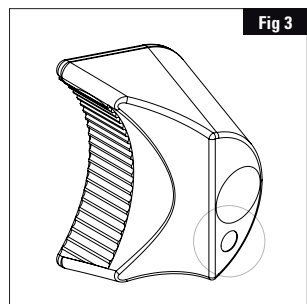

Fig 3
- If you wish to reach positions: -9° / -5° / -1° / $+3^\circ$ / $+7^\circ$ / $+11^\circ$, insert them in the **RIGHT** housing of the stem's body (4)
- If you wish to reach positions: -7° / -3° / $+1^\circ$ / $+5^\circ$ / $+9^\circ$ / $+13^\circ$, insert them in the **LEFT** housing of the stem's body (4)
6. Place the "left hand thread" buffer (5) (WITH indicator) (Fig 3) in its housing.